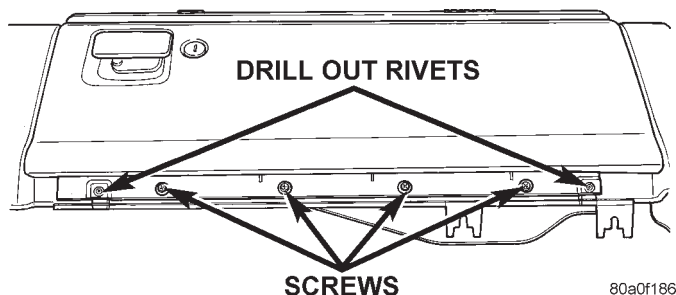

Fig. 18 Glove Box Remove/Install
(1) Disconnect and isolate the battery negative cable.
(2) Drill out the two rivets that secure the glove box hinge to the lower edge of the glove box module (Fig. 18).